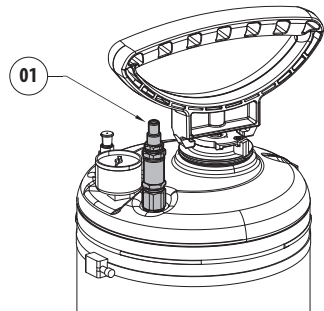

Fig. 26
Connect the compressed air pipe on the compressed air filling valve (01). Once the desired pressure is generated, remove the compressed air pipe. (Fig. 26, page 17).